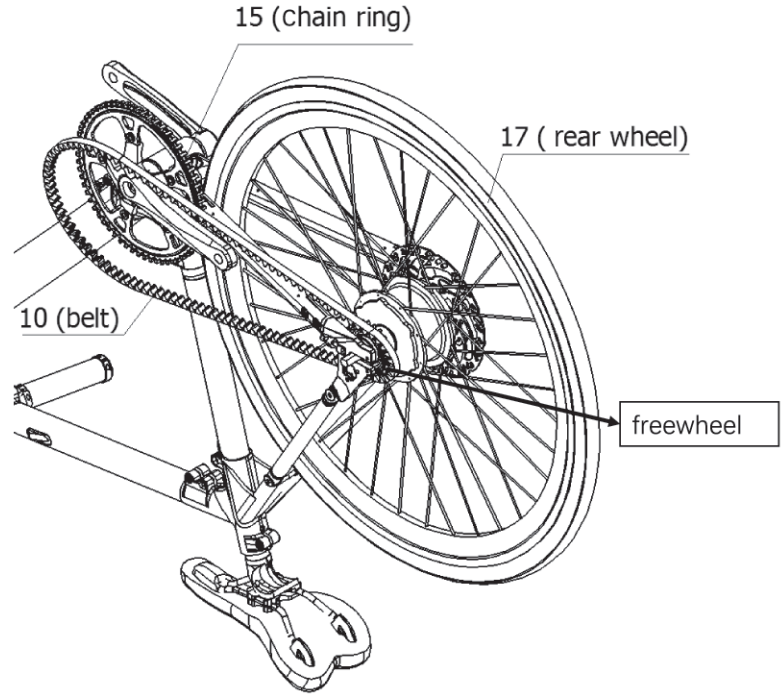

Figure 30-2.
e. Turn Part 10 upward and cover the freewheel of the rear wheel so that the center of Part 10 engages with the center of the freewheel, as shown in Figure 30-2.